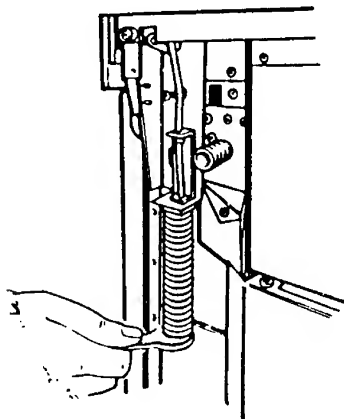

Fig. 11
2. Adjust springs by rotating both adjusting nuts as Fig. 11 upwards to tension or downwards to slacken.